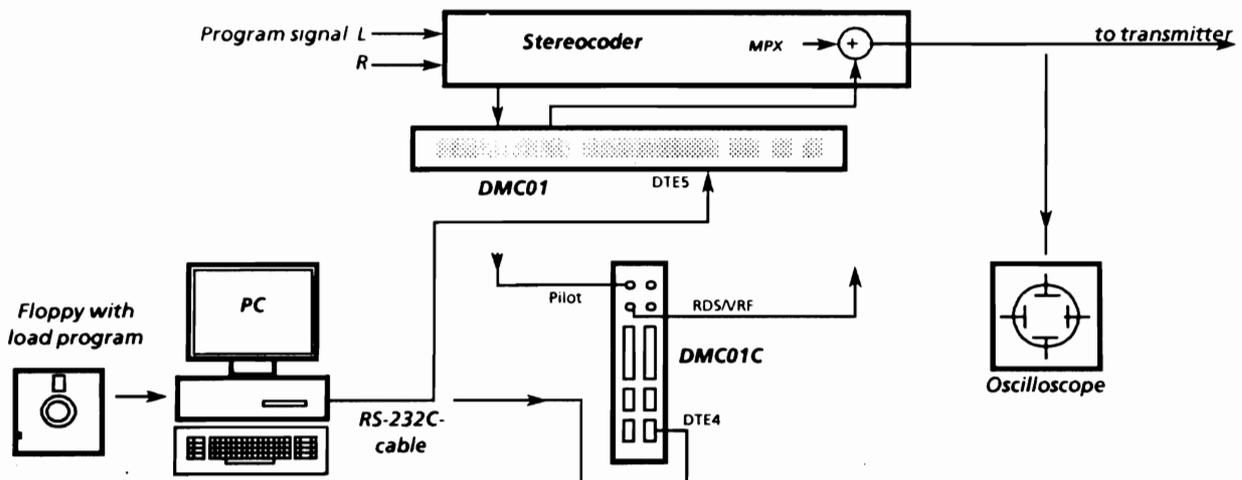

Fig. 2-6 Setup for putting into operation
See Fig. 2-6.
- ▶ For the test setup see Fig. 2-6.